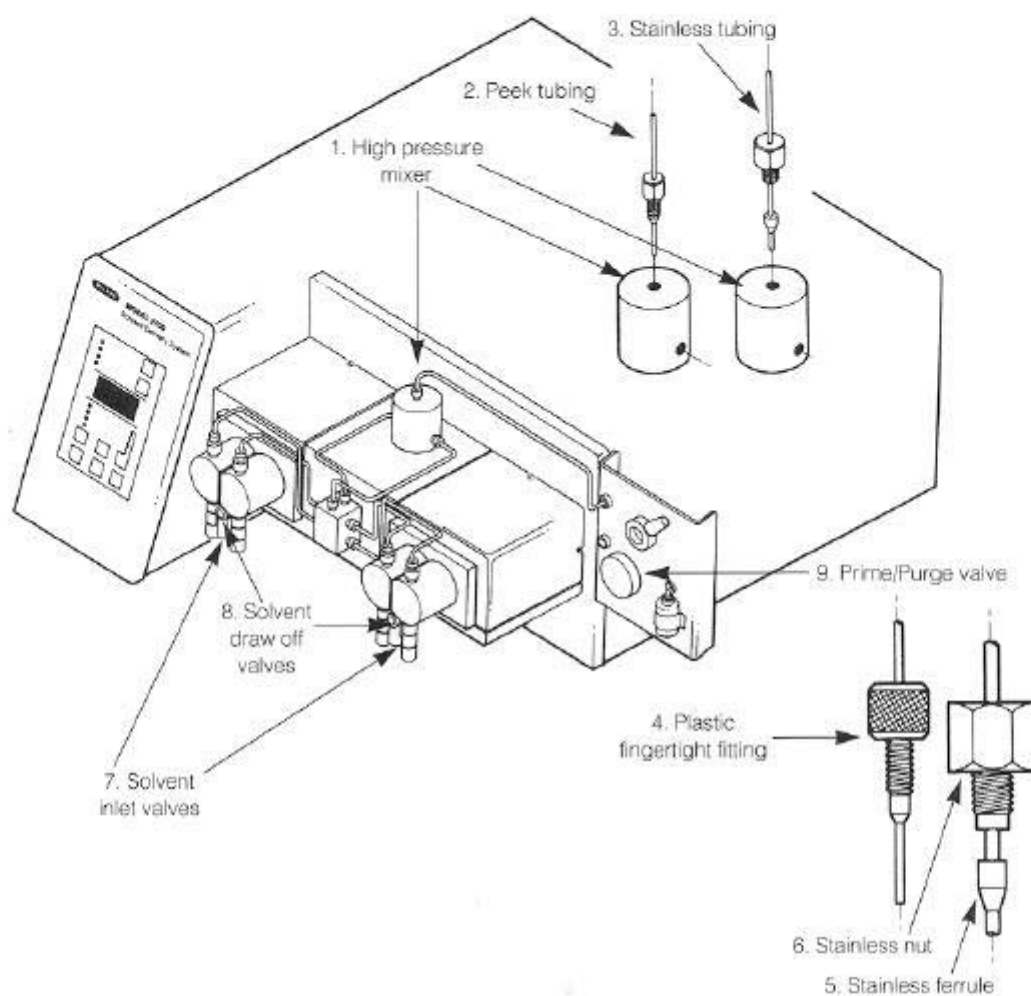

Fig. 2.4. Model 2800 Solvent Delivery System liquid connections.
Refer to Figure 2.4 for details about plumbing the Model 2700 Solvent Delivery System.
1. Connect one end of the HPLC tubing, using the nut and ferrule supplied, to the outlet of the high pressure mixer assembly as shown in Figure 2.4. Use either Fingertight fittings or regular nuts and ferrules. The stainless fittings withstand 6,000 psi, and the PEEK fittings are capable of 4,000 psi.